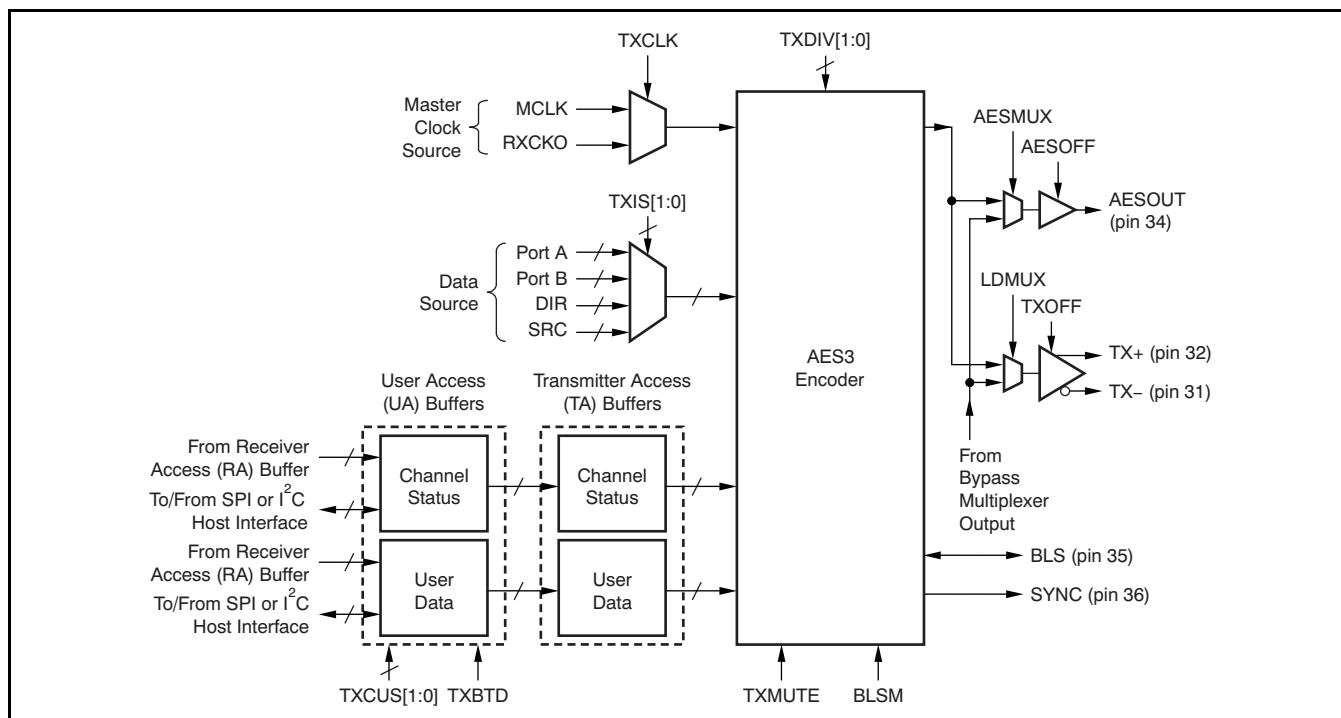

Figure 65. Digital Interface Transmitter (DIT) Functional Block Diagram
The DIT encodes a given two-channel or data-reduced audio input stream into an AES3-encoded output stream. In addition to the encoding function, the DIT includes differential line driver and CMOS buffered output functions. The line driver is suitable for driving balanced or unbalanced line interfaces, while the CMOS buffered output is designed to drive external logic or line drivers, as well as optical transmitter modules. Figure 65 illustrates the functional block diagram for the DIT.
The AES3 encoder output is connected to the output line driver and CMOS buffer source multiplexers. As shown in Figure 65, the source multiplexers allow the line driver or buffer to be driven by the AES3-encoded data from the DIT, or by the bypass multiplexer, which is associated with the outputs of the four differential input line receivers preceding the DIR core. The bypass multiplexer allows for one of the four line receiver outputs to be routed to the line driver or buffer output, thereby providing a bypass mode of operation. Both the line driver and CMOS output buffer include output disables, set by the TXOFF and AESOFF bits in control register 0x08. When the outputs are disabled, they are forced to a low logic state.
The decoded audio data, along with the internally-generated sync clocks, may be routed to other function blocks, including Port A, Port B, the SRC, and/or the DIT. The decoded channel status and user data is buffered in the corresponding Receiver Access (RA) data buffers, then transferred to the corresponding User Access (UA) data buffers, where it may be read back through either the SPI or I2C serial host interface. The contents of the RA buffers may also be transferred to the DIT UA data buffers; see Figure 65. The channel status and user data bits may also be output serially through the general-purpose output pins, GPO[4:1]. Figure 71 illustrates the output format for the GPO pins when used for this purpose, along with the DIR block start (BLS) and frame synchronization (SYNC) clocks. The rising edges of the DIR SYNC clock output are aligned with the start of each frame for the received AES3 data.